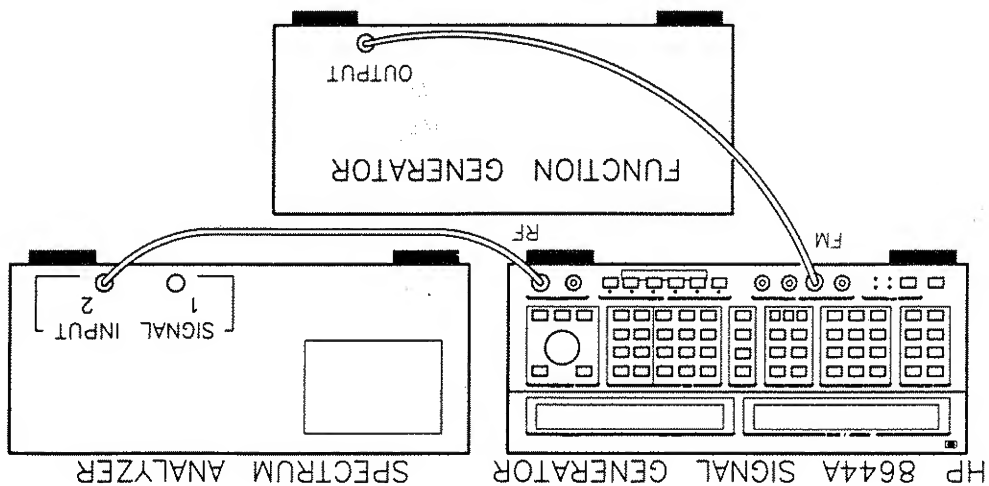

Figure 2-4. Equipment Setup for FM Procedure #2.
1. Connect the HP 8644A to the Spectrum Analyzer and Function Generator as shown in figure 2-4. Turn on the equipment and make the following adjustments: